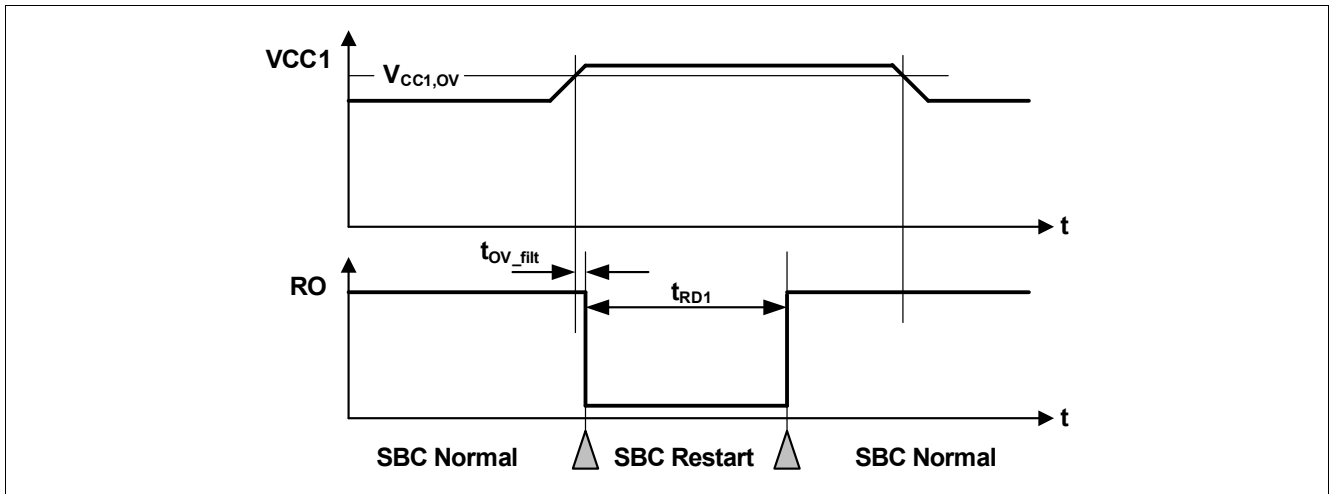

Figure 46 VCC1 Over Voltage Timing Diagram
- If the bit **VCC1_OV_RST** is set and **CFGP** = '1', then SBC Restart Mode is entered. The FOx outputs are activated. After the reset delay time (t_{RD1}), the SBC Restart Mode is left and SBC Normal Mode is resumed even if the VCC1 over voltage event is still present (see also Figure 46). The **VCC1_OV_RST** bit is cleared automatically;